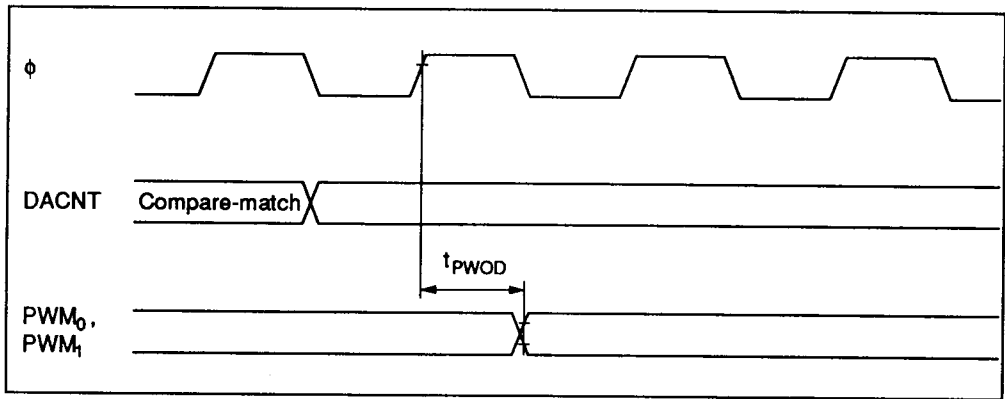

Figure 21-15 14-Bit PWM Timer Output Timing
21.3.7 14-Bit PWM Timer Timing	Figure 21-15